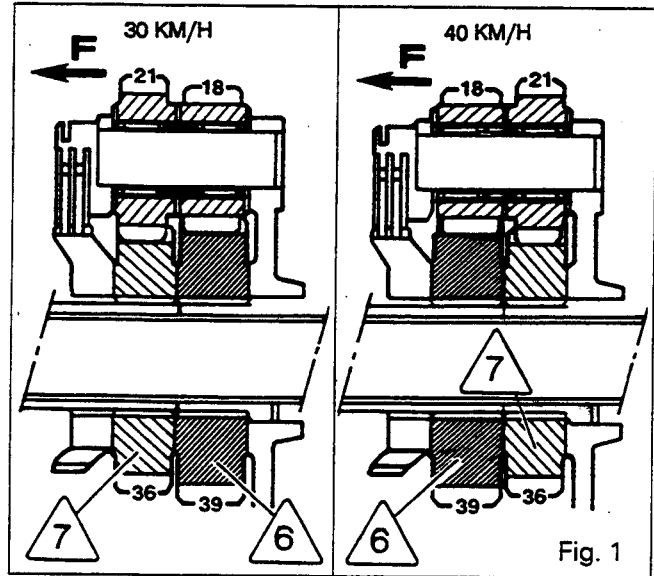
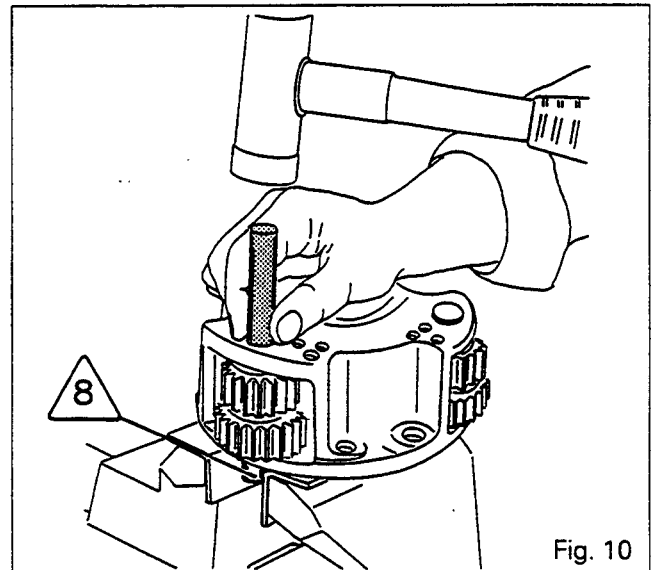

Fig. 1
Fig. 10
- 30 km/h or 40 km/h version (Fig.1)
- /7\ 36 tooth in 30 km/h version (Fig.1)
- /6\ 30 tooth in 40 km/h version (Fig.1)
21. Drive out spindles /8\ with a drift and a mallet (Fig.10).
23. Take out needle-roller bearings (11) and (16), spacers (14), and washers (10) and (17).
- /6\ 39 tooth in 30 km/h version (Fig.1)
- /7\ 36 tooth in 40 km/h version (Fig.1)